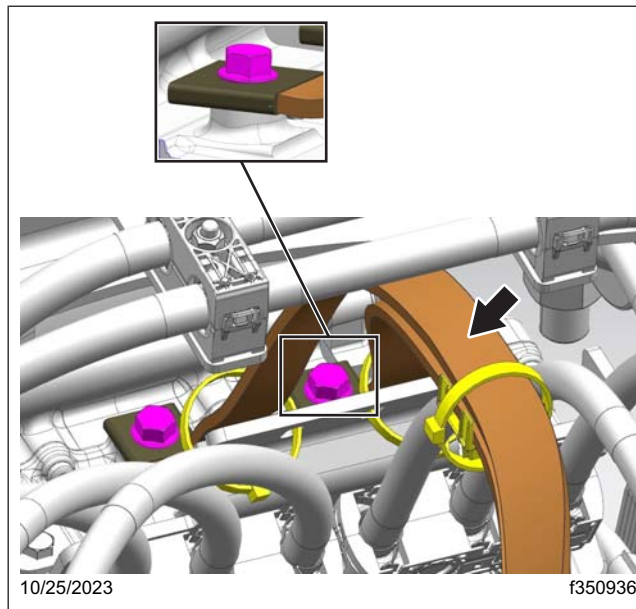

Fig. 3, Flat Grounding Cables Straps
- Disconnect the flat grounding cables straps from the e-Axle. See **Fig. 3**.
60. Connect the flat ground cable straps to the e-Axle. See Fig. 3.